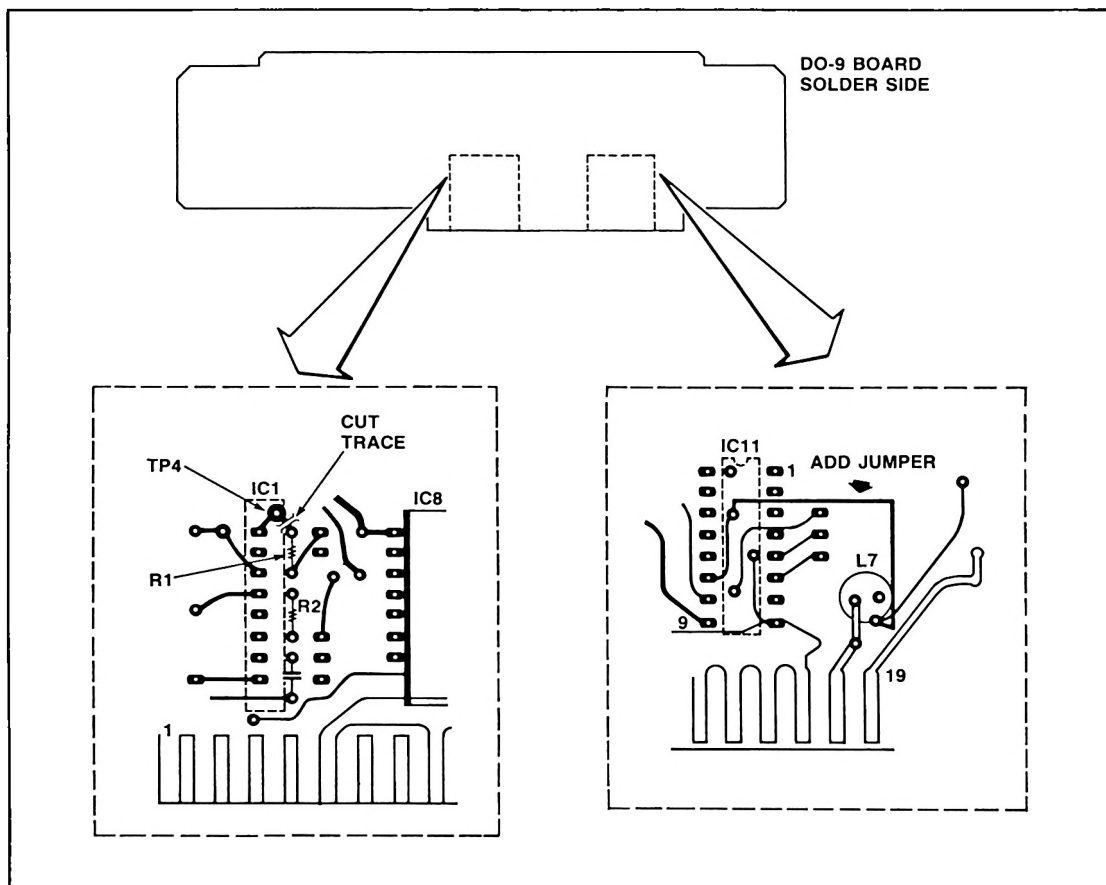

Figure 4
2. On solder side, jumper IC11-11 to CN102-P as shown in Figure 4.